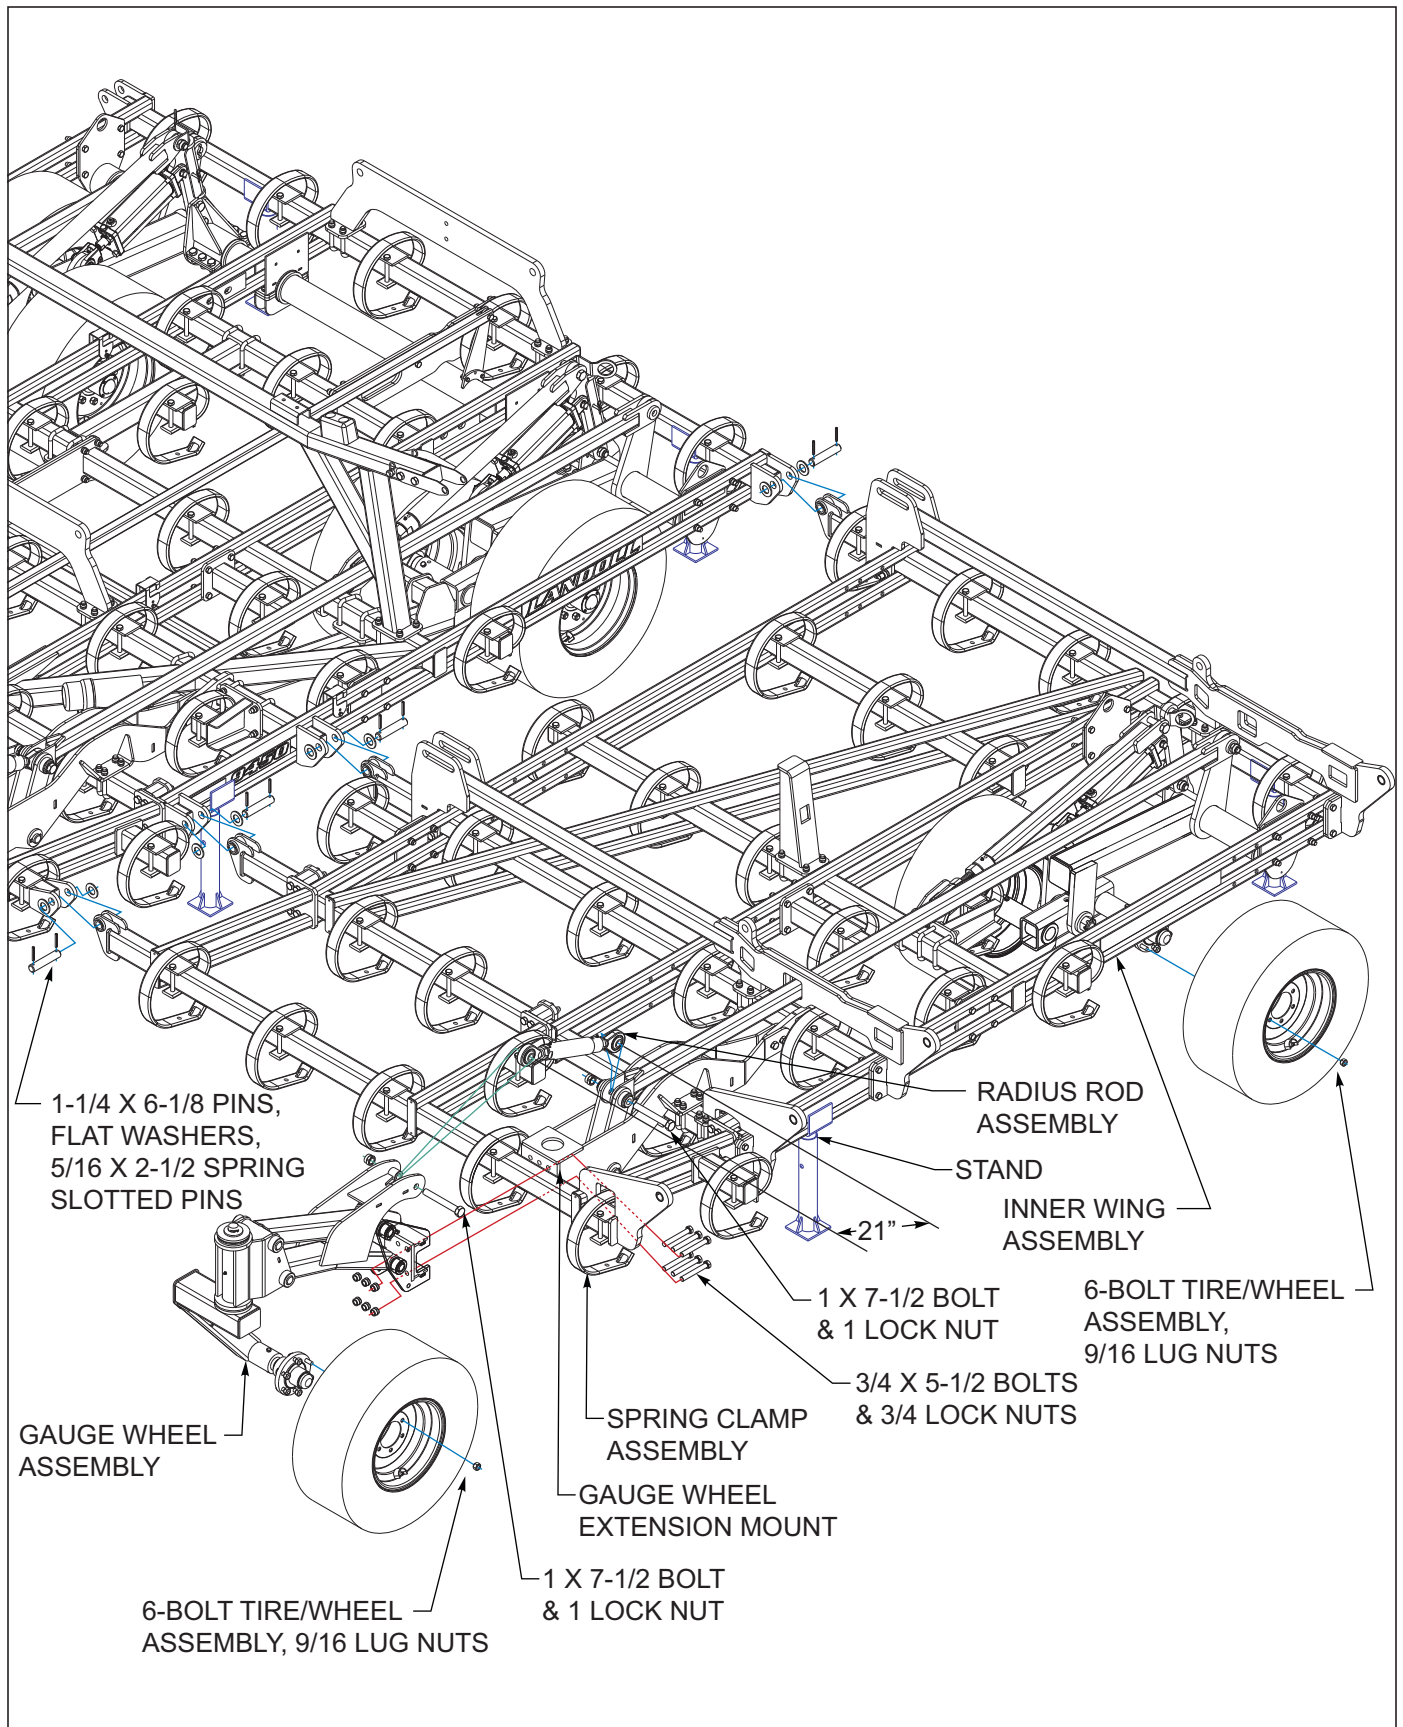

Figure 3-5: Inner Wing Assembly
1. Attach inner wing frame assemblies to center frame using flat washers, 1-1/4 x 6-1/8 pins and 5/16 x 2-1/2 spring slotted pins See Figure 3-5.
1. Remove the 1 x 7-1/2 bolt and 1 lock nut from the gauge wheel extension mount assembly See Figure 3-5.